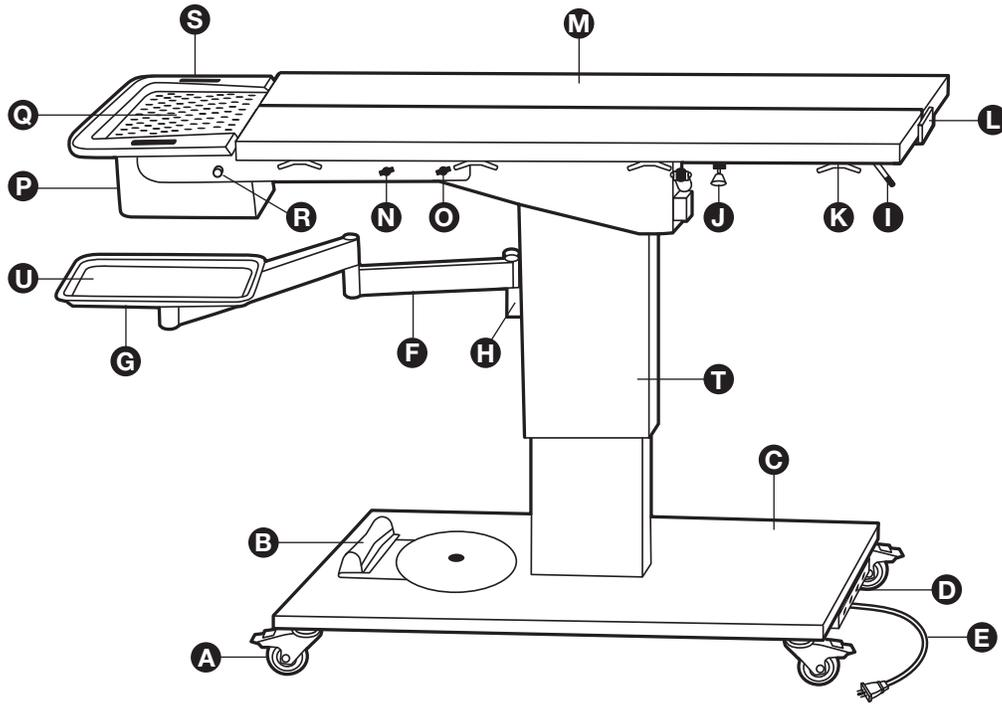

Figure 1
**Note:** This section is intended for use only after you have read and familiarized yourself with the entire contents of this manual. Refer to Figure 1 for component identification.